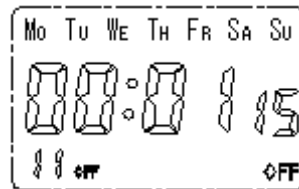

Figure6
4.1.2.2 11ON (first way first switch-on time) setting: press 'shift', '+' or '-' respectively to set 11ON time and date mode, after setting, press 'MD' to enter 11OFF (first way first switch-off time) setting, see Figure 6. (Note:11on, the first 1 standard 1 way, the second 1 standard the first group time.)